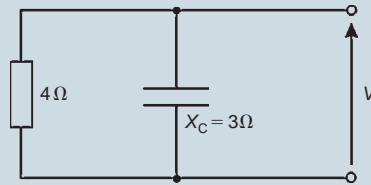

Figure 18.23
13. The magnitude of the impedance of the circuit shown in Fig. 18.23 is: